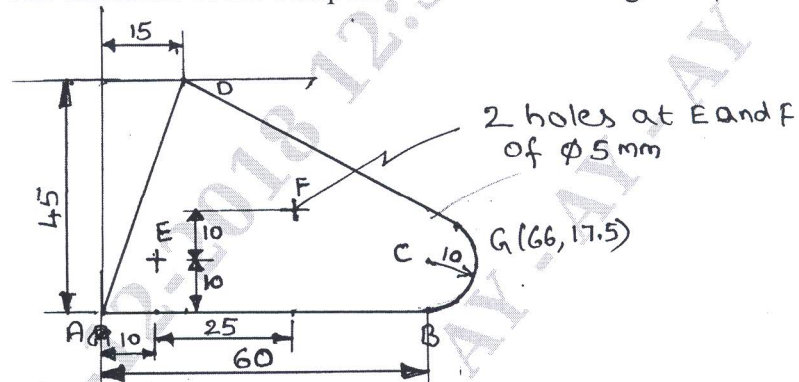

Fig.Q8(b)
- b. Write the manual part programming of the part shown in Fig.Q8(b). Assume suitable feed and speed rate. The thickness of the component is 5 mm. Milling tool $\phi 10$ mm. (12 Marks)